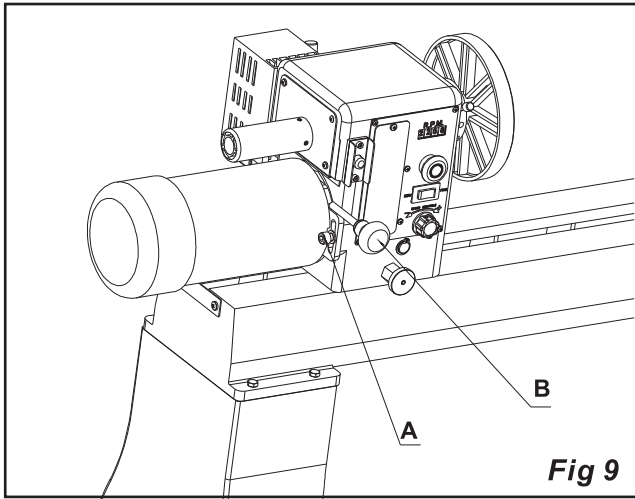

Fig 9
- Loosen the locking Screw (A, Fig. 9).
- Lift up on the tensioning handle (B, Fig. 9) to remove tension from the poly v-belt. You can now position the belt in the desired speed range. It is pictured in the low speed pulley range. Note: The "High" speed range (0-3200) provides maximum speed, whereas the "Low" speed range (0-1200) will provide maximum torque.